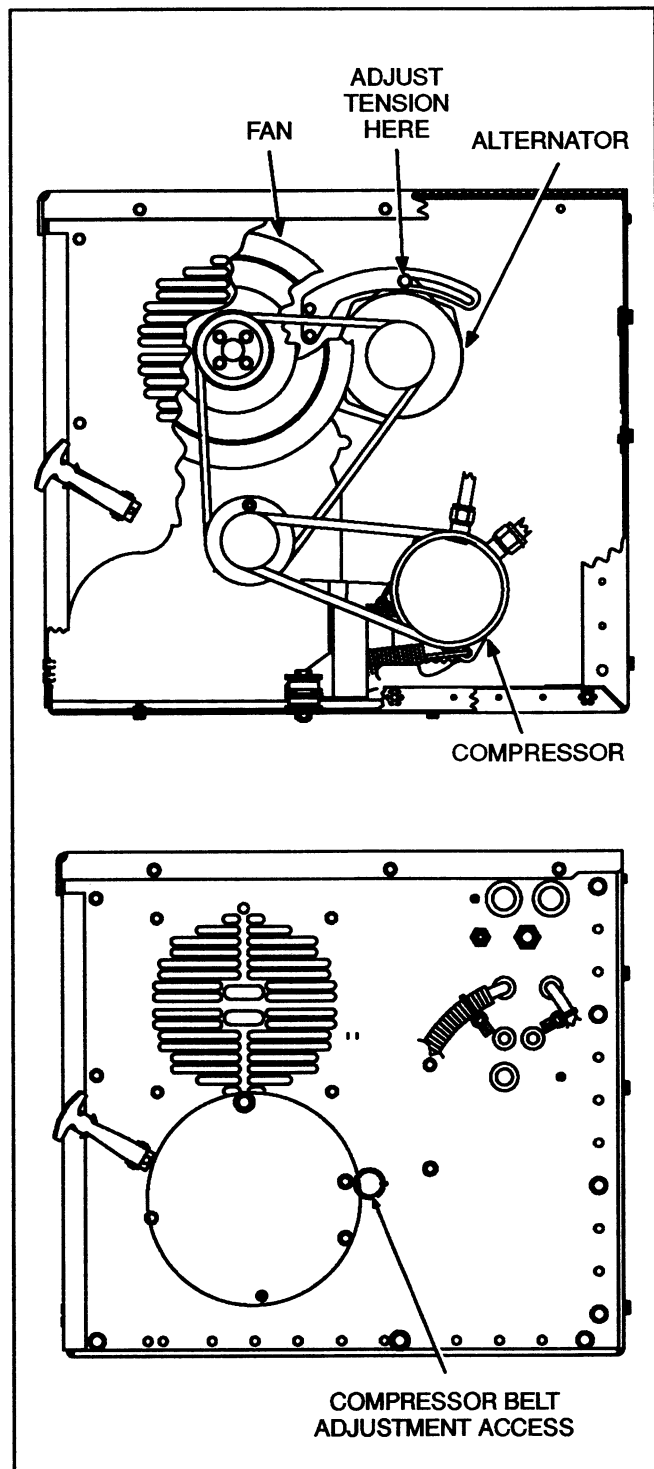

FIGURE 7-5. DRIVE BELT ADJUSTMENT
To adjust the belt, loosen the bolts that secure the alternator (Figure 7-5). Adjust the position of the alternator until the belt tension is correct. Belt tension is correct when a finger pressure of 22 pounds (10 kg) at the middle of the belt deflects it about 0.4 inch (10 mm). A belt tension gauge can also be used to check the belt tension.
1. Remove the hole plug from the air inlet side of the power unit (Figure 7-5).